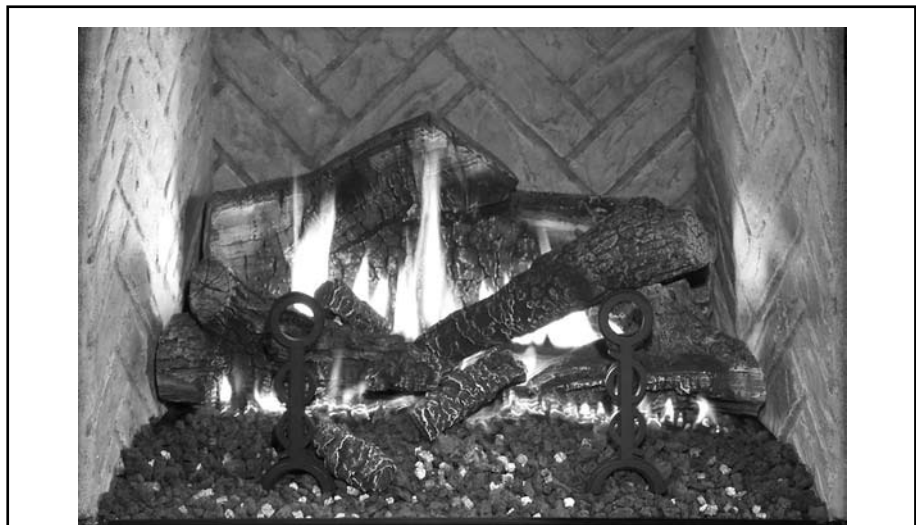

Figure 14
3. Allow the burner to operate for at least 15 minutes while observing the flame continuously to ensure that the proper flame appearance has been achieved (see **Figures 14, 15 or 16**). If the following conditions are present, adjust accordingly.
5. When satisfied that the burner flame appearance is normal, close the lower control compartment door (see **Figures 14, 15 and 16** on **Page 17**).